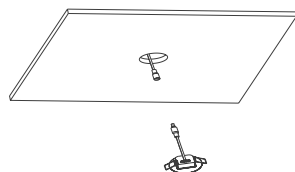

Figure 3-2
2. Create a hole in the ceiling with a diameter between 2" and 2 3/8". then route the indicator cord to the inverter within the junction box (not included) and reconnect the quick connector (refer to Figure 3-2).